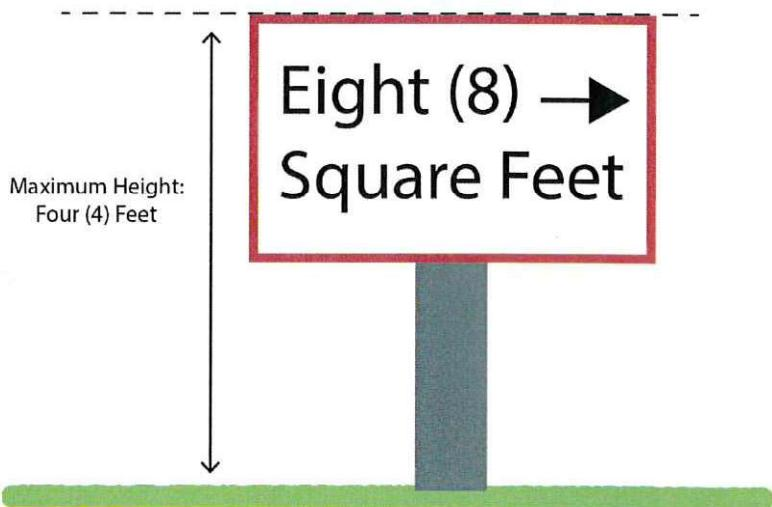

Figure 9
2. Height. Signs shall not exceed 4 feet in height (*See Figure 9*).
3. Size. Signs shall not exceed eight (8) square feet in area.